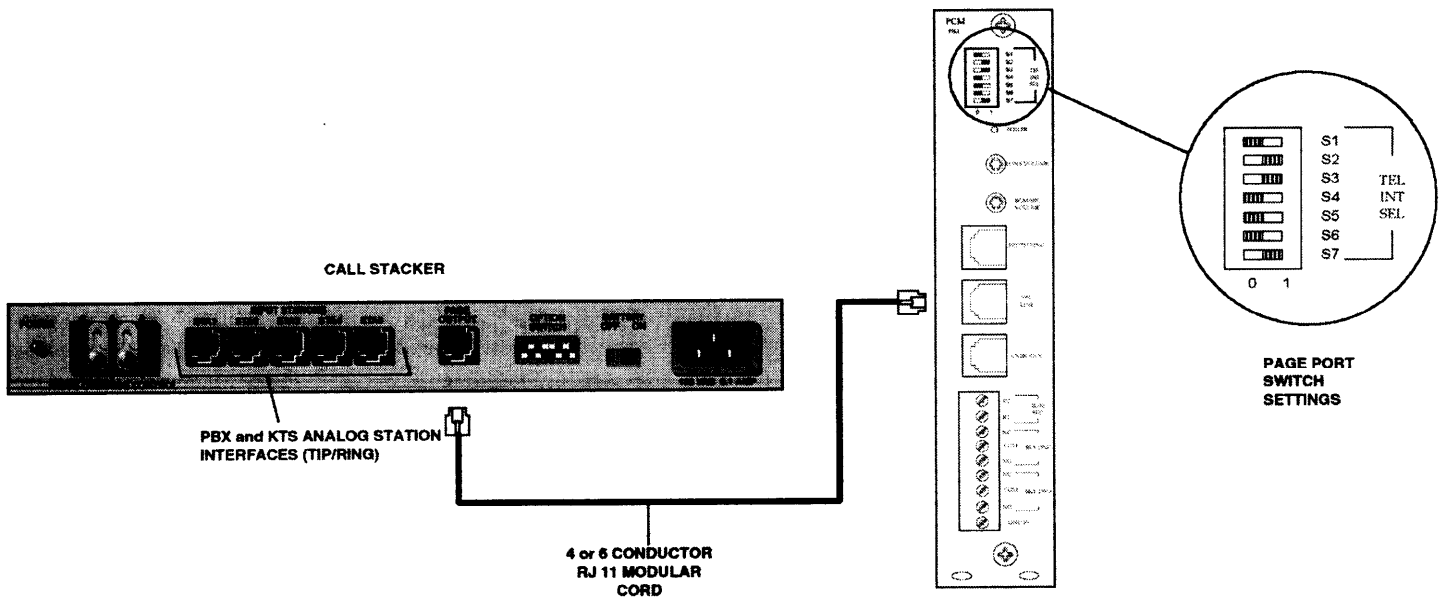

Figure A-4: Typical Application - Connection to a Call Stacker
- \* To Call Stacker (see Figure A-4 on page 56)